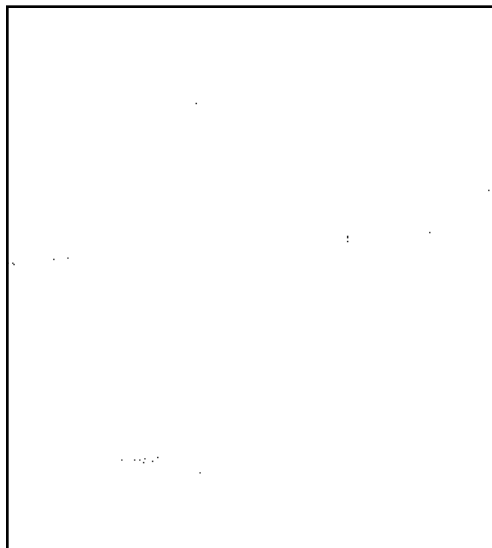

Figure 25
- Push tower to desired location on machine. (See Figure 25.)